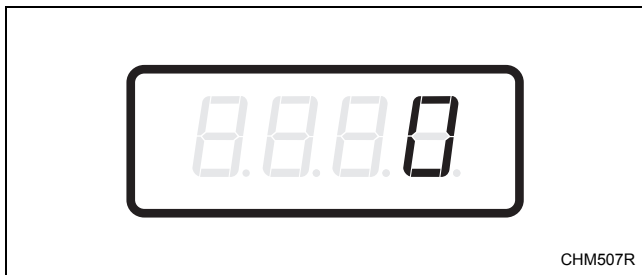

Figure 13
4. When “PLSE” appears in the display, press the START (enter) keypad. There are five digits in the Start Pulse Value. The fifth digit will appear in the display and will flash one second on and one second off. Refer to *Figure 13*.